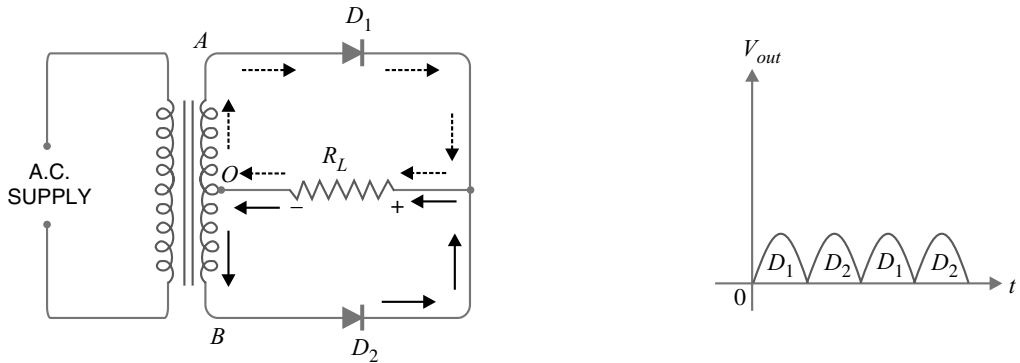

Fig. 4.31
The circuit employs two diodes  $D_1$  and  $D_2$  as shown in Fig. 4.31. A centre tapped secondary winding  $AB$  is used with two diodes connected so that each uses one half-cycle of input a.c. voltage. In other words, diode  $D_1$  utilises the a.c. voltage appearing across the upper half ( $OA$ ) of secondary winding for rectification while diode  $D_2$  uses the lower half winding  $OB$ .
**Operation.** During the positive half-cycle of secondary voltage, the end  $A$  of the secondary winding becomes positive and end  $B$  negative. This makes the diode  $D_1$  forward biased and diode  $D_2$  reverse biased. Therefore, diode  $D_1$  conducts while diode  $D_2$  does not. The conventional current flow is through diode  $D_1$ , load resistor  $R_L$  and the upper half of secondary winding as shown by the dotted arrows. During the negative half-cycle, end  $A$  of the secondary winding becomes negative and end  $B$  positive. Therefore, diode  $D_2$  conducts while diode  $D_1$  does not. The conventional current flow is through diode  $D_2$ , load  $R_L$  and lower half winding as shown by solid arrows. Referring to Fig. 4.31, it may be seen that current in the load  $R_L$  is *in the same direction* for both half-cycles of input a.c. voltage. Therefore, d.c. is obtained across the load  $R_L$ . Also, the polarities of the d.c. output across the load should be noted.